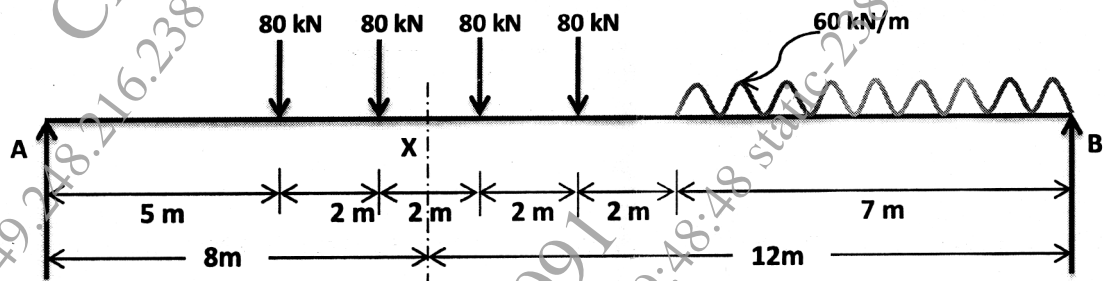

Fig. 7
4. (a) Four equal loads of 80 kN each, equally spaced at 2 m apart followed by a uniformly distributed load of 60 kN/m run are placed as shown in Fig. 7. Using influence lines, calculate the shear force and bending moment at a section 8 m from left support A. [6]